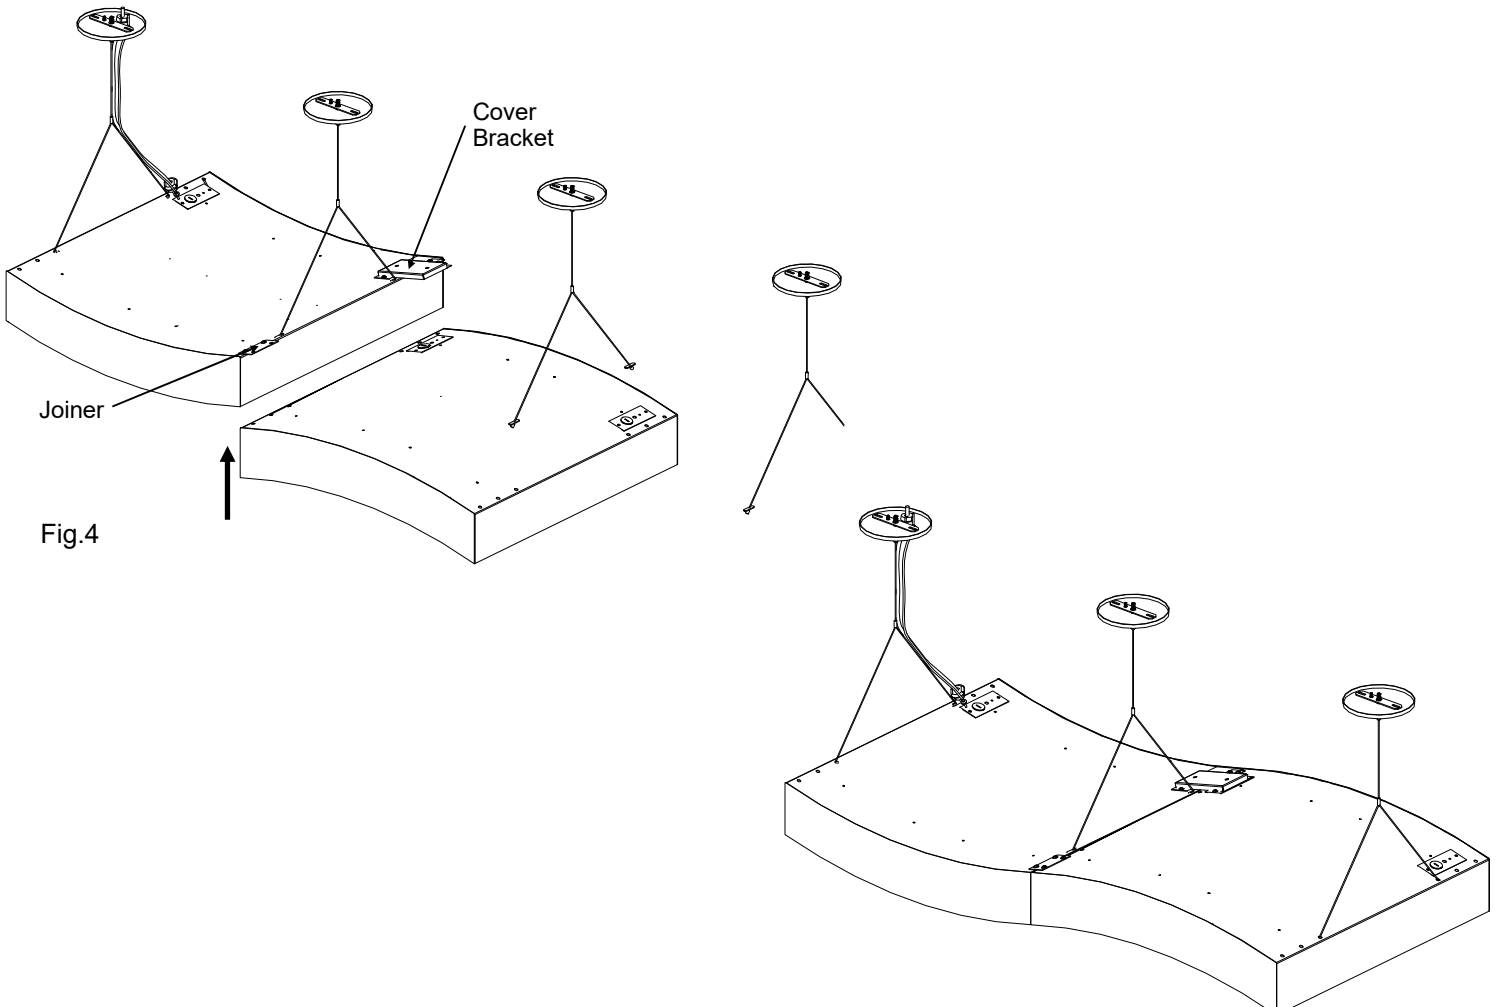

Fig.4
6. Raise the luminaire and insert the end toggles from the aircraft cable to 1/4" diameter holes on back of fixture as shown in Fig.4.